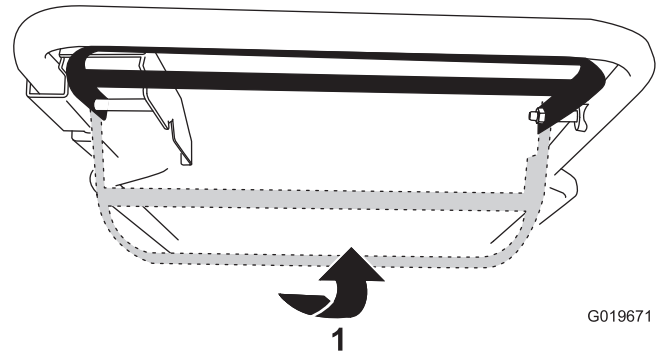

Figure 15
- To operate the self-propel drive without engaging the blade: Raise the blade-control bar to the handle (Figure 15).